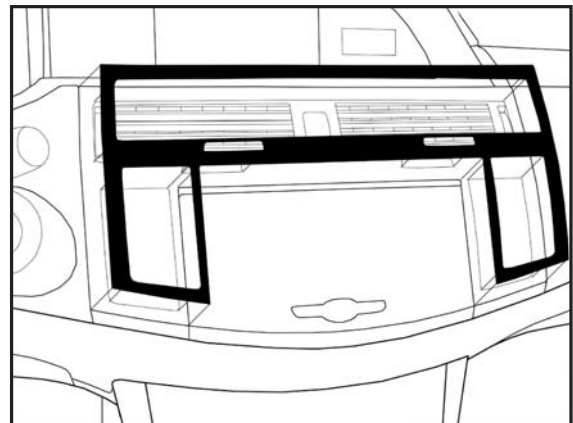

Fig. E1
- A. Align part uniformly to edge of factory components. Edge of appliqué should be flush to edge of factory component,  $\pm 1.0\text{mm}$ . (Fig. E1).